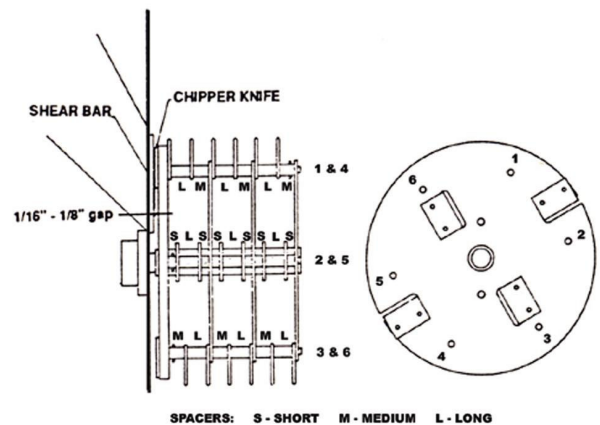

Fig. 1
**NOTE:** Replace knives and spacers in the same manner they are removed. (See Fig. 1) This will eliminate improper balance and misalignment of knives, which may cause damage to the machine and void warranty.